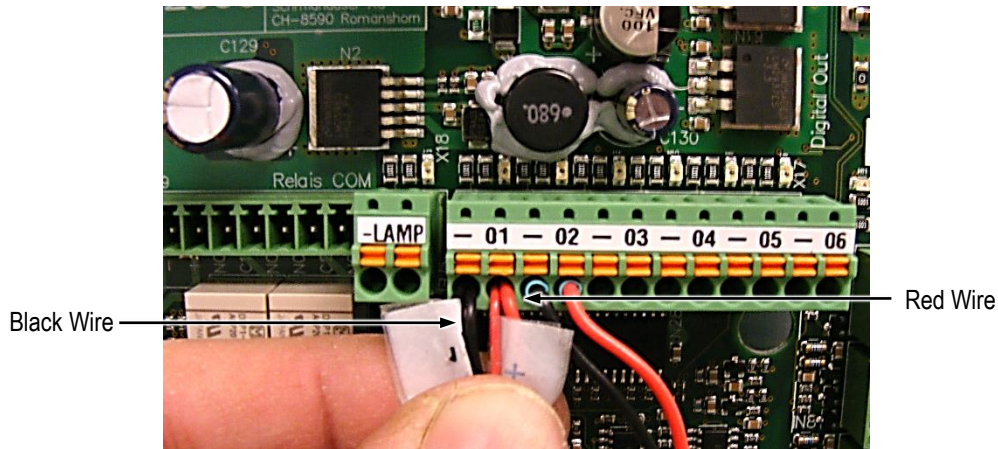

Figure 9
See schematic 2161898 for connection. Ensure that the black wire (-) goes to the (-) and the red wire (+) goes to the (01). Refer to Figure 9.